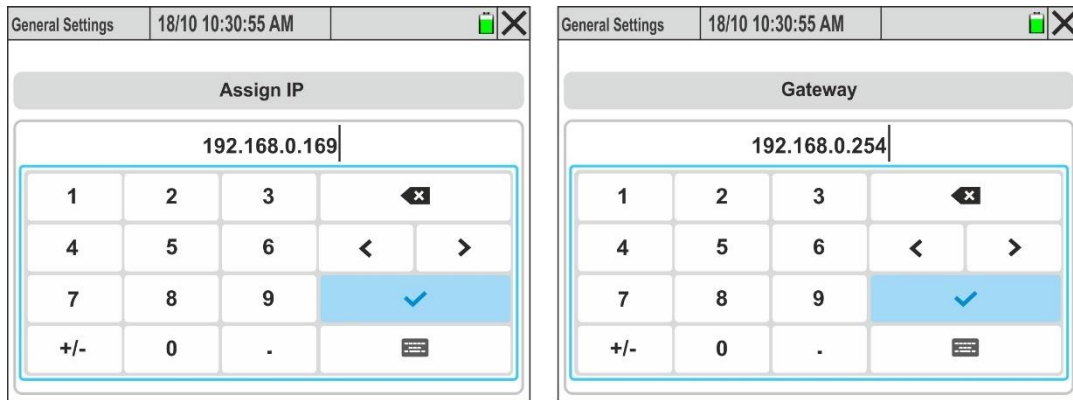

Fig. 17: Setting Ethernet network parameters – User defined Mode
11. Touch the value associated with the "Assign IP" field. The screen of Fig. 17 – left part is shown on the display
13. Touch the value associated with the "Gateway" field. The screen in Fig. 17 – right side is shown on the display